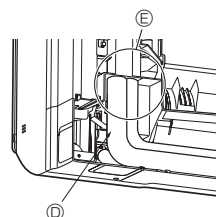

Fig. 3-10
6. Cover the flare connection portion with the pipe cover of the L-shaped connection pipe ④ so that it is not exposed. (Fig. 3-10)
- ▲ (A) L-shaped connection pipe ④
- ▲ (B) Cut-off position (Straight pipe portion)
- ▲ (C) Tightening direction
- ▲ (D) Cover with pipe cover
- ▲ (E) Cover the flare nut connection portion with the pipe cover.
8. Cover the flare connection portion with the pipe cover of the L-shaped connection pipe ④ so that it is not exposed. (Fig. 3-10)